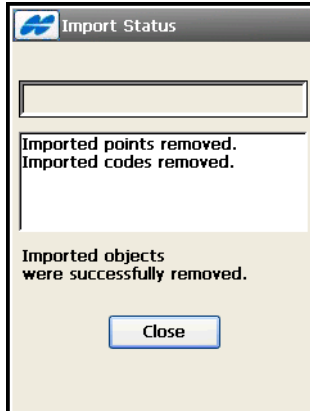

Figure 5-12. Import Status for Removed Objects
- The back  button disables the import process and opens the **Import Status** screen to remove all the objects already imported (Figure 5-12).